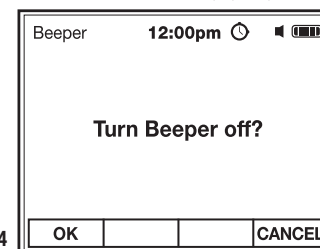

Fig. 24
2. Use the **F1 OK** soft key to turn the beeper on or off and return to Meter Settings (Fig. 24).